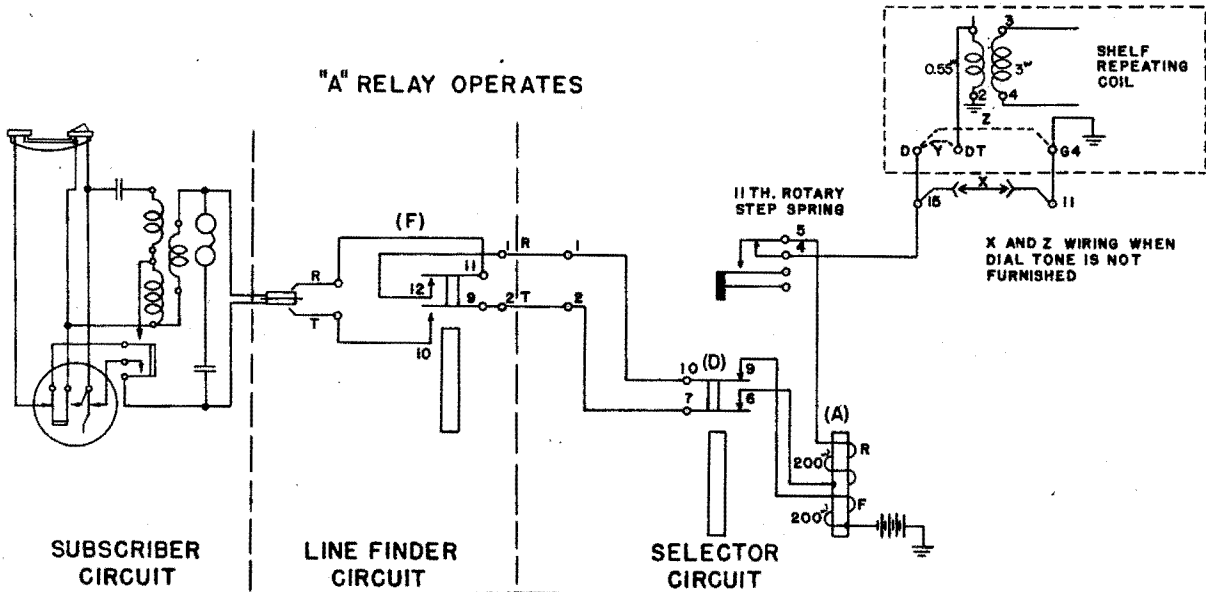

FIG. 1
(A) relay operates (Fig. 1) from ground through the 2-1 windings of the (DT) repeating coil, (DT) terminal of the shelf terminal strip which is strapped (Y wiring) to the (D) terminal, terminal 15 of the switch jack, 4-5 contacts of the 11th rotary step springs, 200 ohm, R (Rear) winding of the (A) relay, 6-7 contacts of (D) relay, terminal 2 of the switch jack, out over the tip (T) lead, line finder and subscriber loop, back on the ring (R) lead, terminal 1 of the switch jack 10-9 contacts of (D) relay, 200 ohm F (Front) winding of (A) relay to battery.
When the (DT) repeating coil is not furnished (A) relay operates (Fig. 1) from ground on the G (1-4) terminals of the shelf terminal strip, terminal 11 of the switch jack which is strapped to terminal 15 (X Wiring).